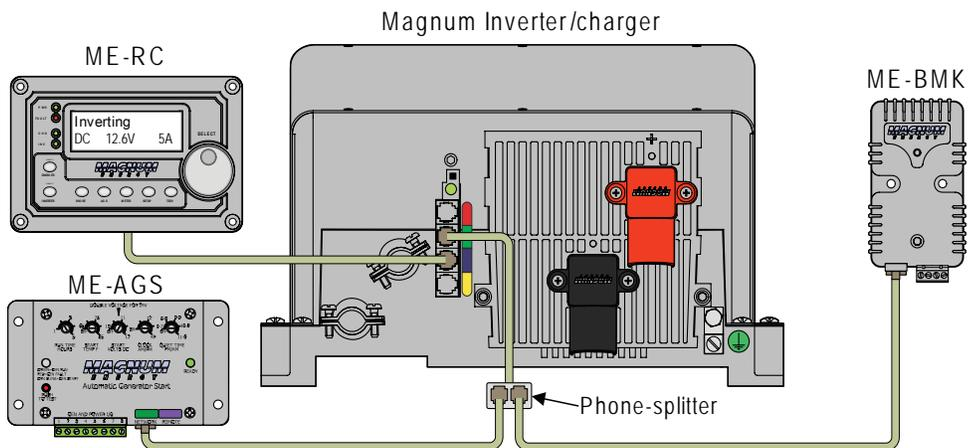

Figure 2-4, Multiple Network Devices - Star Configuration
- **Star Configuration** - In the star arrangement the network devices all connect to the “network” port via a phone-splitter to the inverter using individual cable runs (see figure 2-4). Since each device is independently connected to the inverter’s “Magnum Net” or “network” port, problems in a cable or a device can be easily isolated; and if there is a cable failure to one device, it does not bring down all the other devices.